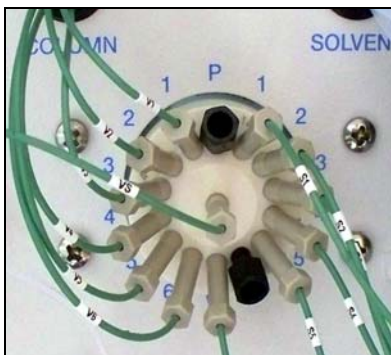

Figure 5-14. 12-Port Valve Fitting Connections
4. Reattach the fittings to the valve stator as shown in Figure 5-14 and Table 5-4. These are polymeric or PEEK fittings; do not over-tighten.